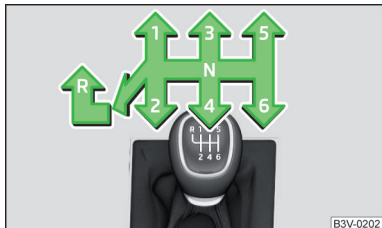

Fig. 260
The gearshift pattern for the individual gear positions is shown on the gear lever » Fig. 260.
- › Push the shift lever downwards fully to the left and then forward into **R** » Fig. 260.